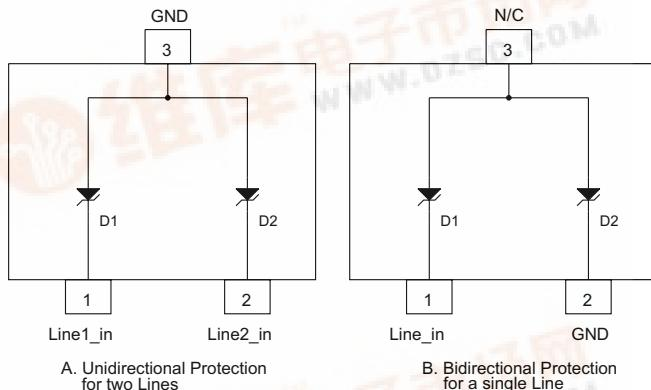

Fig. 1: Schematic and Pin Configuration
- Terminal Connections: See Fig. 1